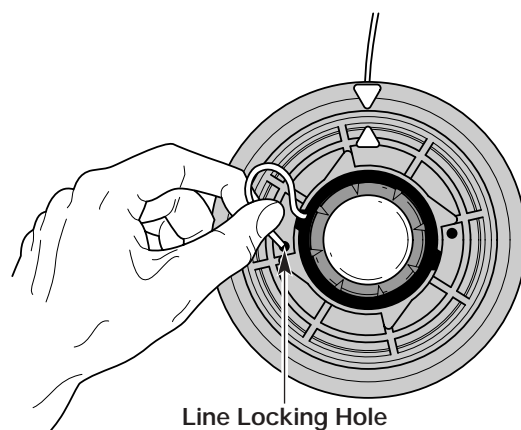

Fig. 43
5. Insert the line into the locking hole (Fig. 43). Do not push the line more than a 1/2 inch (12.7 mm) into the line locking hole. The line will form a small loop (Fig. 43) when it is inserted correctly.